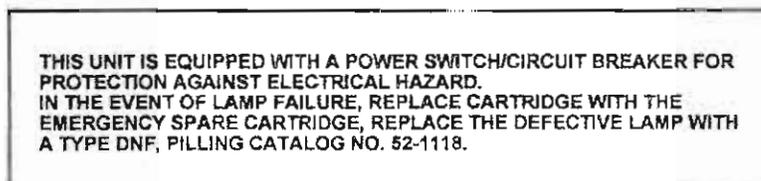

Figure 1-10. Operating information.
(4) Imprinting (located on each side of the endoscopic instrument light) providing information about the power switch and lamp failure procedures is depicted in figure 1-10.